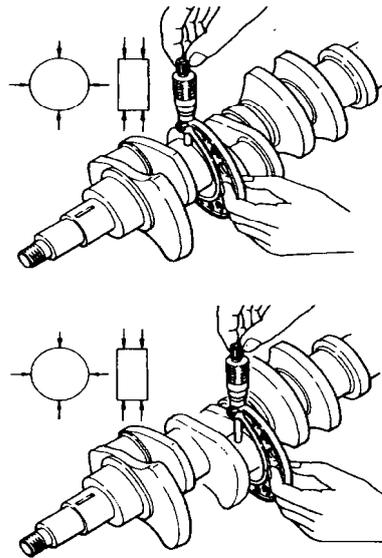

Figure 24 Measuring the Crankshaft Bearing Journals
- m.** Measure the crankshaft bearing journals with an external micrometer (Figure 24). The main bearing journal diameter limits are 79.932 to 79.944 mm (3.1469 to 3.1474 in). The connecting rod bearing journal limits are 63.942 to 63.944 mm (2.5174 to 2.5175 in). Check each journal for taper and/or ovality. Discard the crankshaft if the wear exceeds these limits.